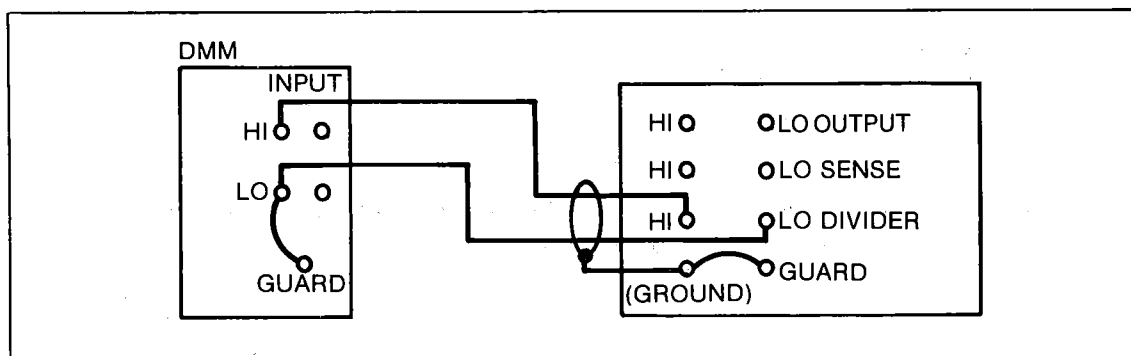

Figure 3-4. Output Voltage Test: DIVIDER OUTPUT
- a. Connect the equipment as shown in Figure 3-4.